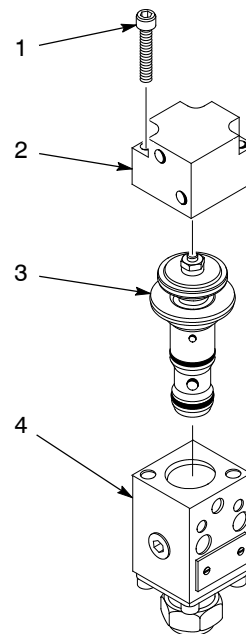

Figure 9 Replacing a Packing Cartridge
1. See Figure 9. Remove the screws (1) securing the air cylinder cap (2) to the body (4).
2. Lift out the packing cartridge (3).